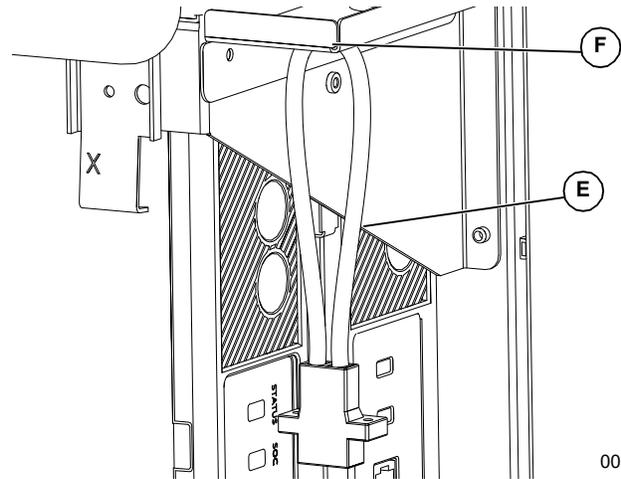

Figure 4-29. Unused Loop Jumpers
4. See Figure 4-29. Tie unused loop jumpers (E) to wiring chase baffle slot (F) for future use.